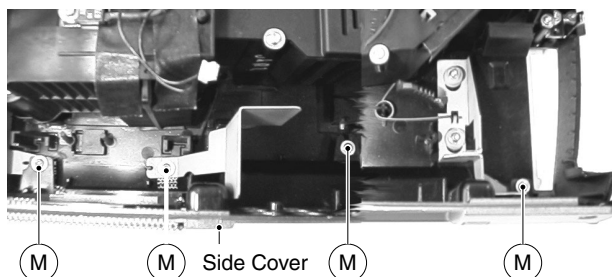

Fig. 10
- 4 Remove the 4 screws "M" (Fig. 10). Now the side cover can be removed.